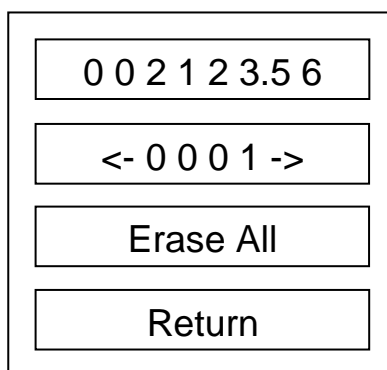

Fig. 7 **“Data”** screen
- a. Touch **“Data”** tab on the **“Main Menu”** screen will let you select the Channel# (or Ratio) in which you want to inspect the data. After selection, the **“Data”** screen now shows similar to Fig. 7. The first row shows the saved data, and the second row shows the data sequential number. You can touch the left and right arrow key to change the data number to inspect other saved data.